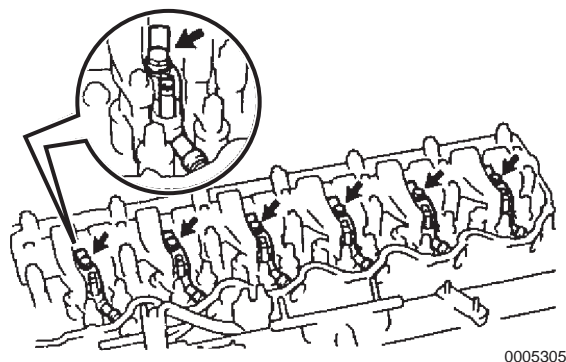

Figure 6-42
- Install the fuel injection nozzle to the cylinder head, using the nozzle holder clamp, washer and bolt **(Figure 6-42)**. Torque to: 255 kgf-cm, 25.01 N·m (18.4 lb-ft)